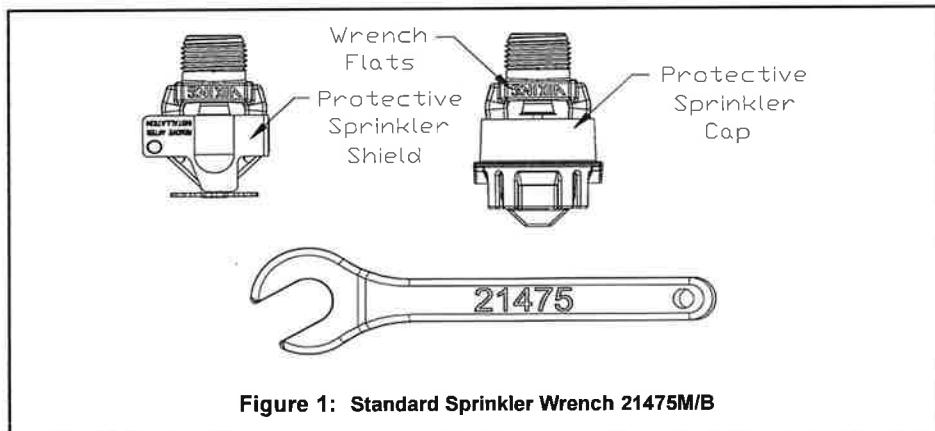

Figure 1: Standard Sprinkler Wrench 21475M/B
- Flow Switch: Two single-pole double-throw switches with Form C contacts rated at 15 Amps 125/250 V. AC, 2.5 Amp 0-30 V. DC. Each switch can be wired for open or closed circuit operation. See Figure 1.